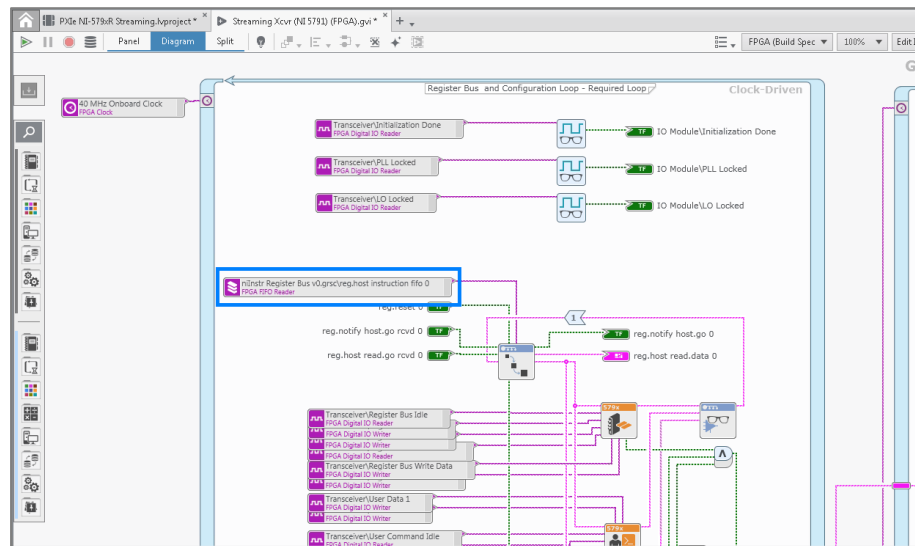

Figure 95: Updated Register Bus in “Streaming Xcvr (NI5791) (FPGA).gvi”
8. Change the reference input on “Process.gcdl” to the new register bus FIFO “nilnstr Register Bus v0.grscvreg.host instruction fifo 0” as shown in Figure 95.